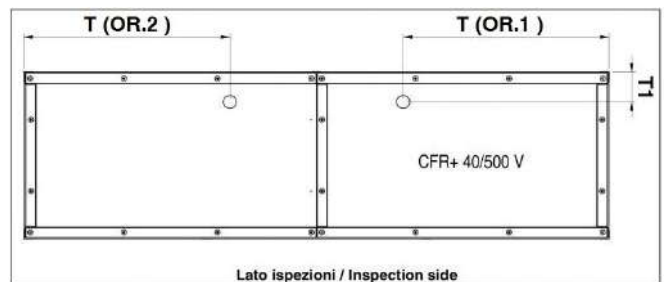

Fig.14A
- The condensate drain is located in the underside of the unit, as show in the figure 14A-14B.